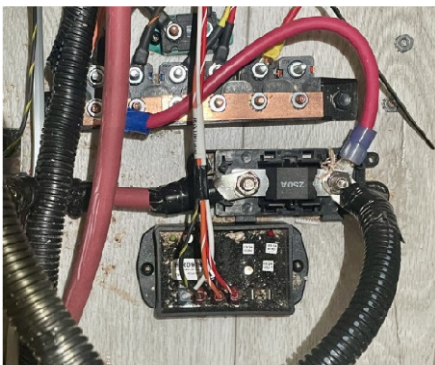

Fig. 4
- Locate BIRD-909 module, remove red/white wire from IG + terminal, tape end or protect end so it will not short to another component. Alternately, the wire can be cut, leaving it connected to the module; the module wire end can then be used and spliced into a 2-way WAGO connector with the wire being brought to its location; the other side should be terminated and taped to prevent any electrical short in the circuit. Figure 4